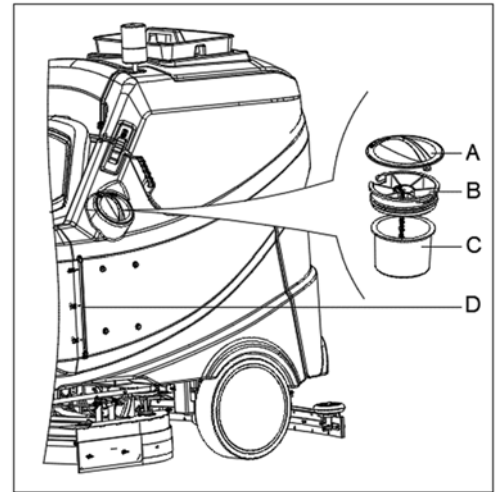

Figure 11
1. Open the water inlet cover (A, Figure 11).